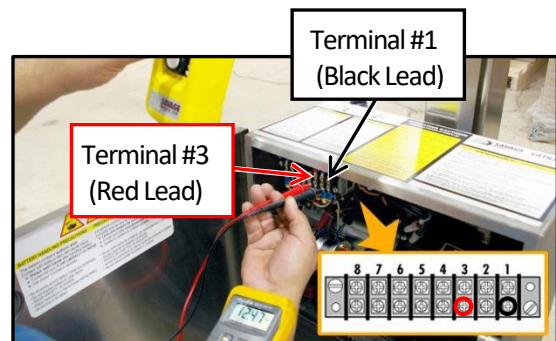

Figure 78— **"REVERSE"** Position
7. Place the red multimeter lead on **terminal #3** on the terminal strip. Place the black multimeter lead on **terminal #1** on the terminal strip (Figure 78). The voltage reading on the multimeter needs to be 0V. Select the **"REVERSE"** position on the control pendant, at which point the voltage should go to **12V** or slightly higher.
9. Remove the bottom nut from the piston shaft. A pipe wrench can be used to prevent the piston rod from turning BUT BE CERTAIN THE WRENCH IS USED ONLY ON THE TOP THREE INCHES OF THE PISTON ROD IN THE POSITION IN FIGURE 78. Marks left by the wrench only in this area will not damage any seals.